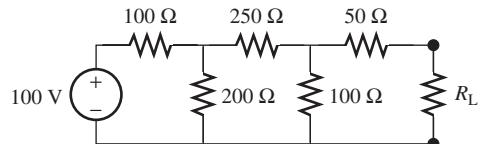

FIGURE P3.75 Circuit for Problem 3.75.
- 3.75 (A)** Determine the maximum power transfer for the circuit shown in Figure P3.75.